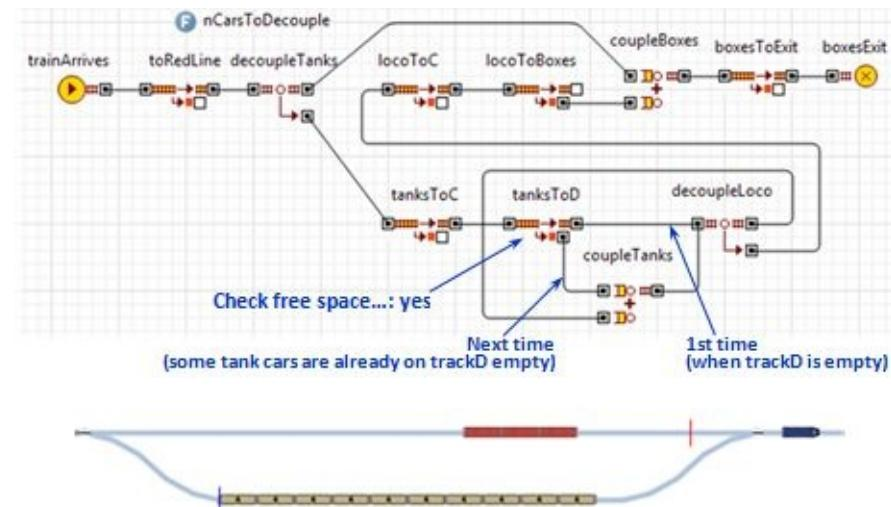

Figure 9.20 The tank cars are coupled on the departure track
22. Add one more object to the flowchart: *coupleTanks* of type **TrainCouple** and connect it as shown in Figure 9.20.